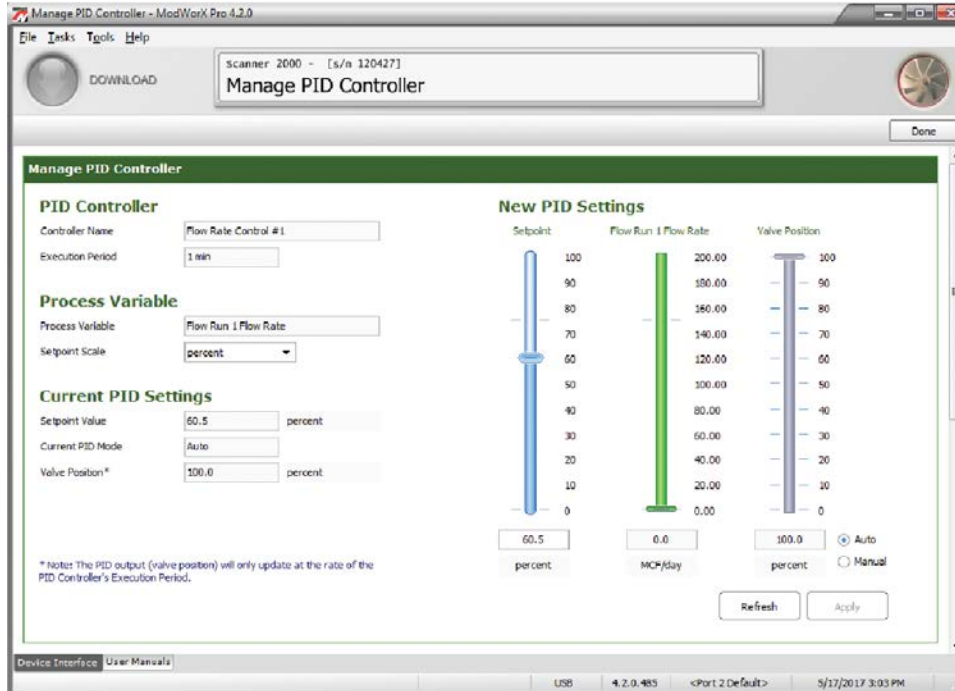
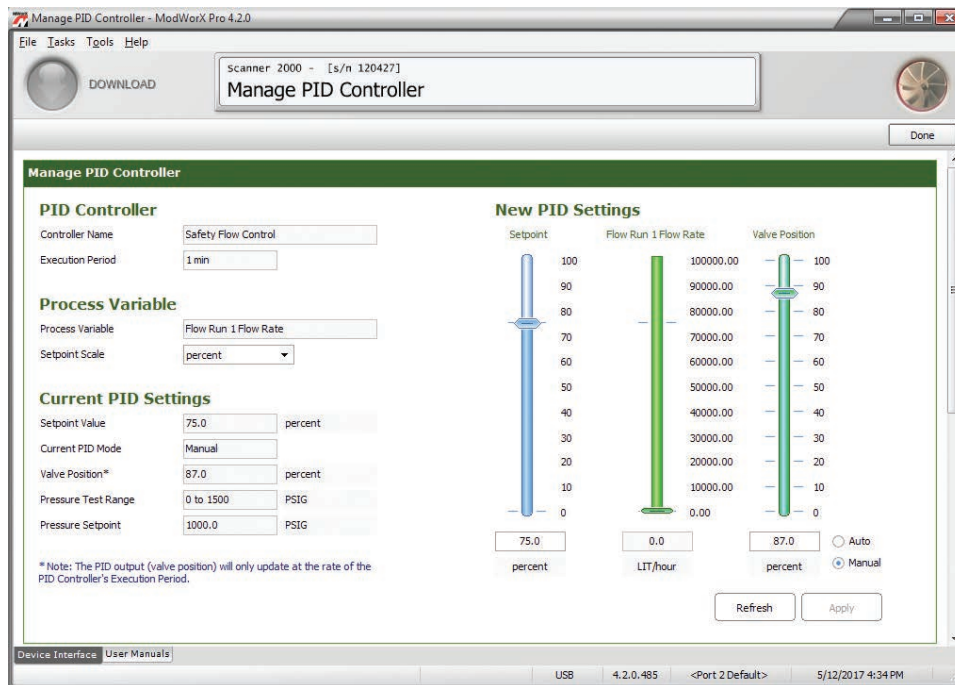

Figure B.8
Figure B.9
1. From the Scanner 2000 or Scanner 210x Main Display screen, click **Manage PID**. Figure B.8, page B-8 shows a Manage PID Controller screen for a simple controller and Figure B.9, page B-8 shows a screen for a PID controller with pressure override.